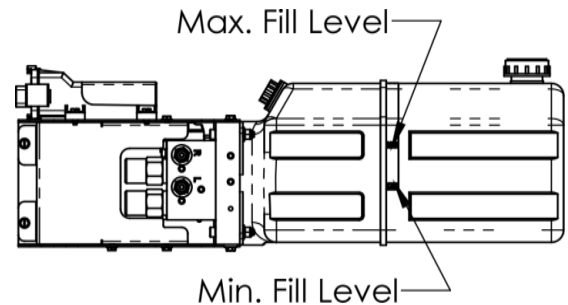

Figure 38. Final fill fluid level.
7. Add fluid to the reservoir until the fluid level is within the band shown in Figure 38.